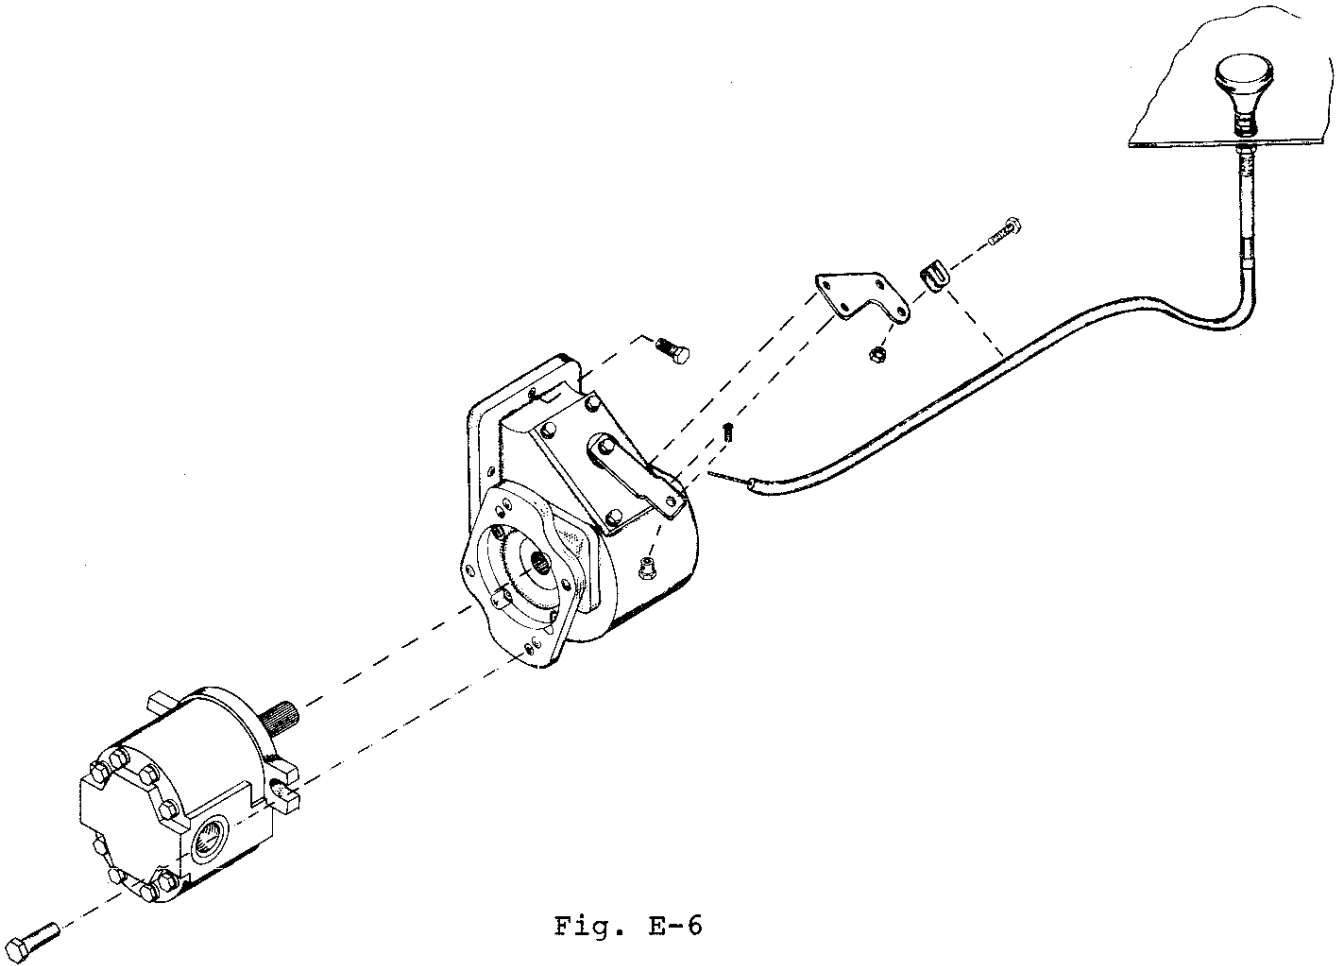
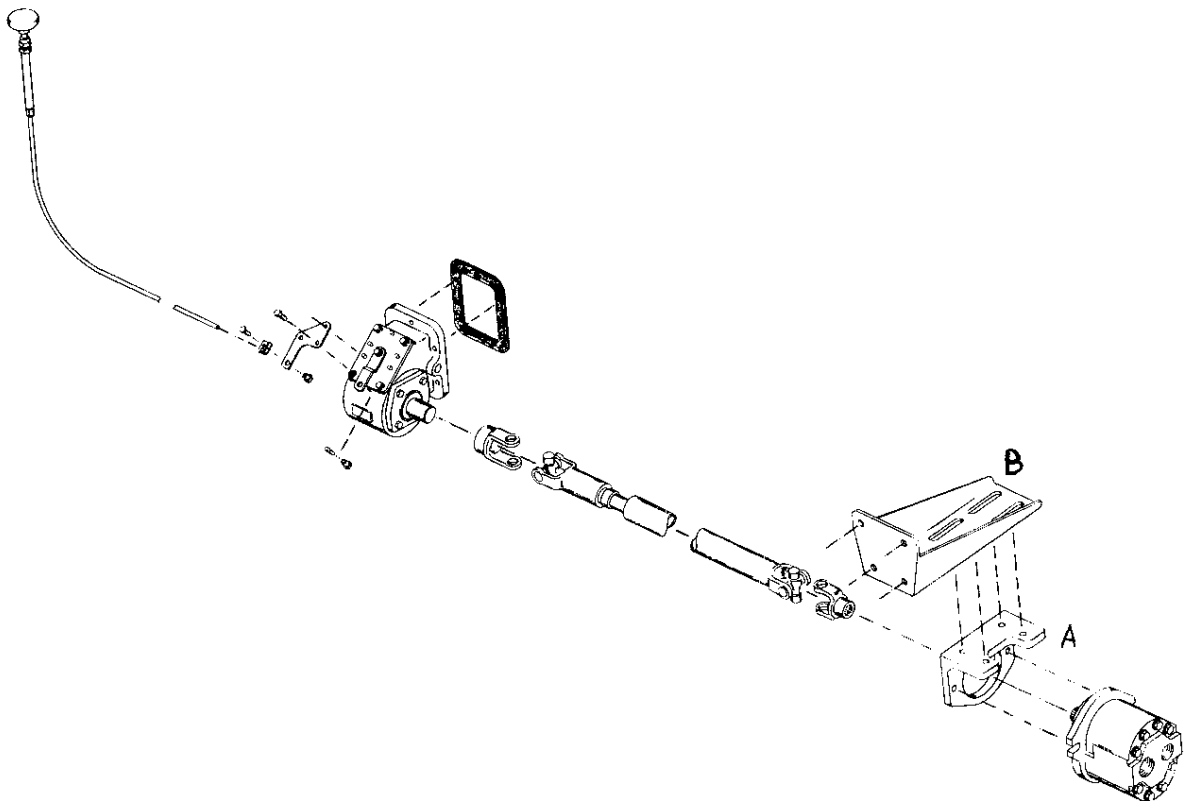

Fig. E-6
Fig. E-7
3. Install PTO in accordance with manufacturer's instructions (see Fig. E-6 or Fig. E-7 pages 5-8 or 5-9).